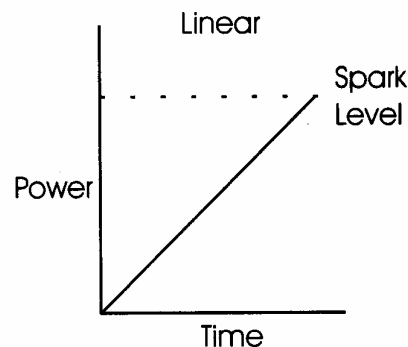

Figure 3-2
- *Linear*, a uniform ramp from setback to pre-spark level (shown below, fig. 3-2)